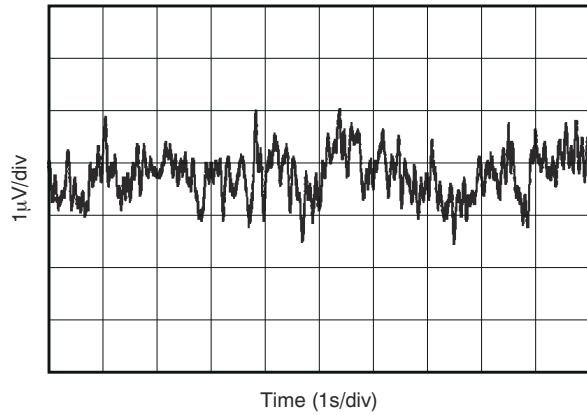

Figure 6-13. 0.1- to 10-Hz Noise
0.1Hz to 10Hz Noise	Figure 6-13